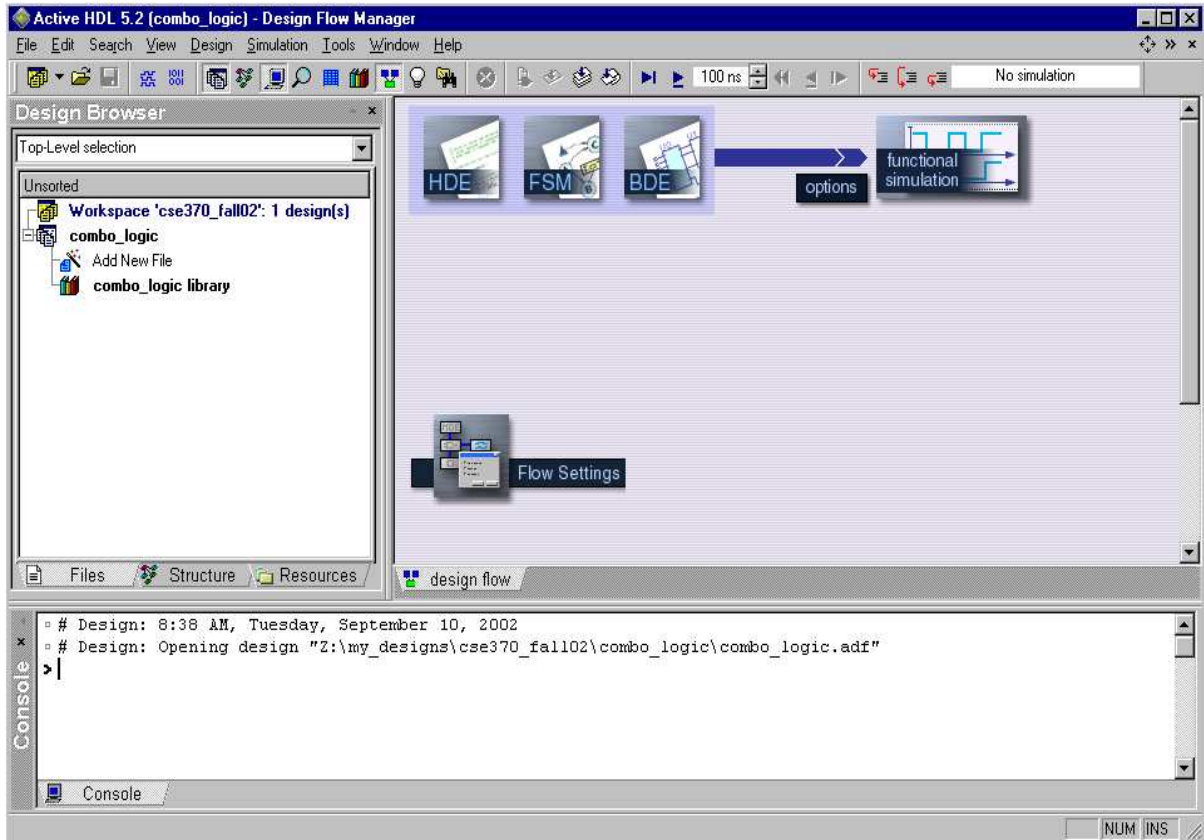
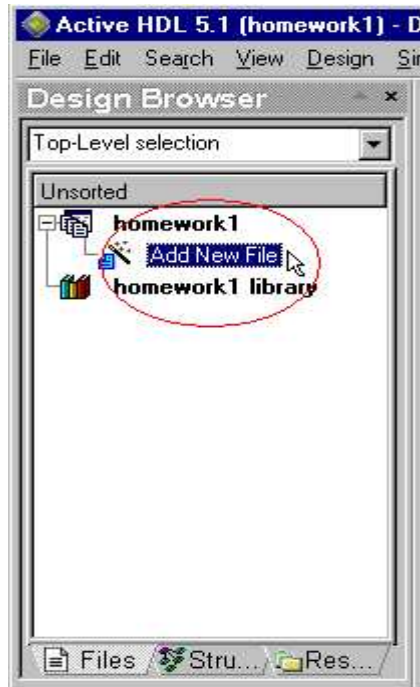

Figure 7
Figure 8
At this point your screen should look like Figure 7 (shown on the following page). The frame on the left is called the Design Browser and lists all of the components in your design. The frame on the bottom is the Console and is where status and error messages are printed. If these frames are not open, or if you have closed them by accident, you can open them by going to View in the menu bar. In the center of the screen is the main window where you will draw your schematics.
1. Double-click the “Add New File” option in the Design Browser (Figure 7). This will open the Add New File window (Figure 8).